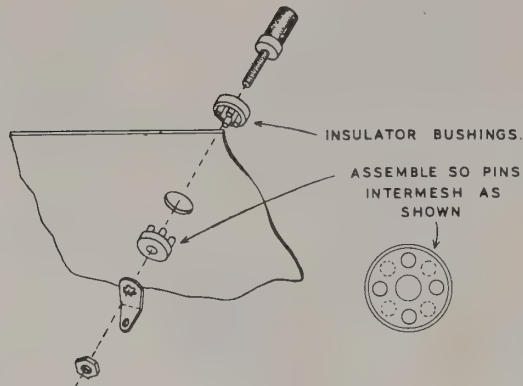

Figure 4
- (✓) Install the binding posts as shown in Figure 4, using binding post base, insulator bushings, solder lug and nut in seven places. In the last place, at the corner of the panel marked OUTPUT, include a control solder lug as shown in Figure 5. Install the binding post caps.